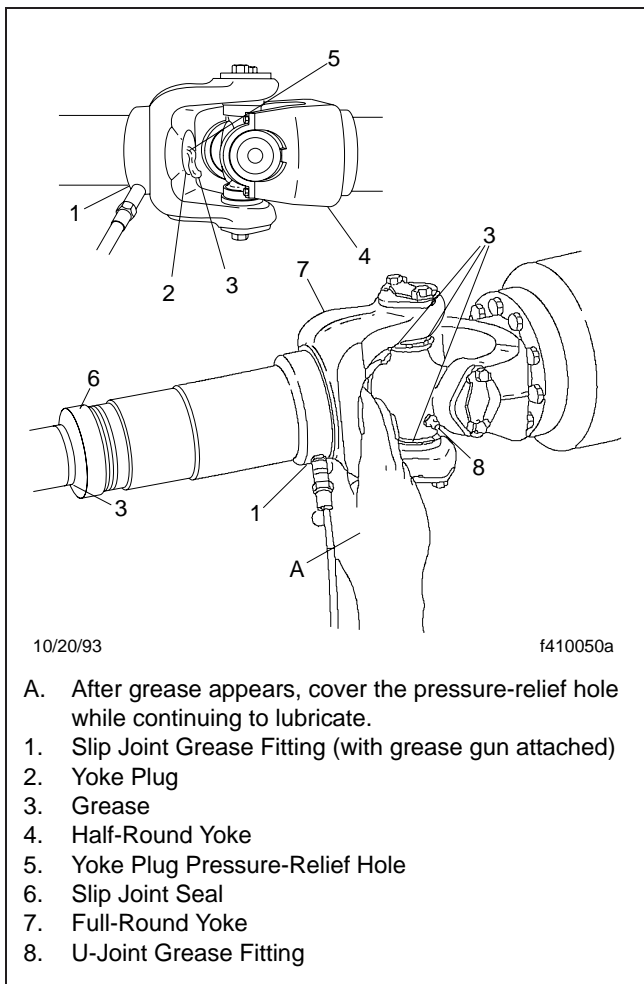

Fig. 5, Slip Joint and U-Joint Lubrication
9. For driveshafts with slip joints, check to be sure the yoke plug is not loose or missing. See **Fig. 5**, Ref. 2. Repair or replace the yoke plug as needed. If the yoke plug is missing, the splined shaft may be hitting the plug and knocking it out; contact your
2. Wipe all old grease and dirt from each U-joint grease fitting. See **Fig. 5**, Ref. 8.
1. If equipped with a grease fitting, wipe all old grease and dirt from the slip joint grease fitting. See **Fig. 5**, Ref. 1.
2. Use a hand-type grease gun or a high-pressure gun with a low-pressure adapter, to lubricate the slip joint. Add multipurpose chassis grease (lithium 12-hydroxy stearate, NLGI Grade 1 or Grade 2, with EP additives) until it appears at the pressure-relief hole in the yoke plug. Then cover the relief hole with your finger, while continuing to apply gun pressure until new grease appears at the slip joint seal. See **Fig. 5**. This ensures complete lubrication of the splines.